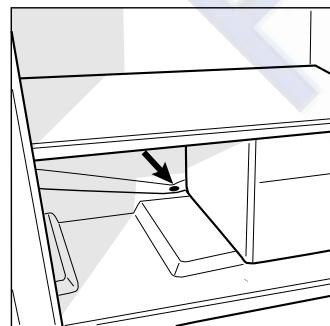

Fig. 6
This appliance defrosts automatically and the water is channeled to the back toward the drain installed for this purpose (fig. 6). Here, the heat produced by the compressor will make it evaporate. The only thing you must do is to periodically check and clean the hole of the drain, which is located behind the vegetable crispers, so that the water drains properly.
- The hole for draining the water from the frost is clogged (see fig. 6).